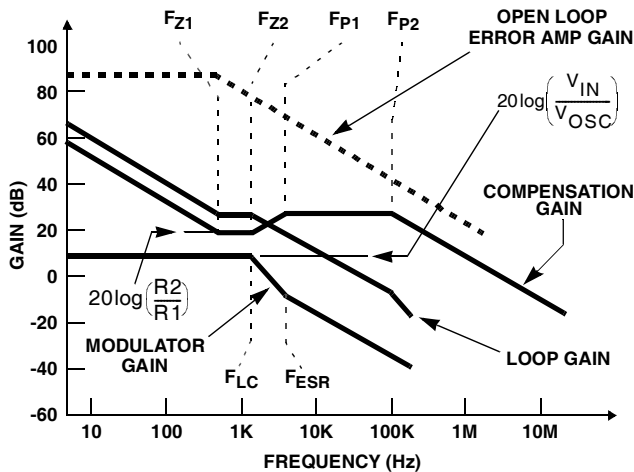

FIGURE 6. ASYMPTOTIC BODE PLOT OF CONVERTER GAIN
Figure 6 shows an asymptotic plot of the DC-DC converter's gain vs. frequency. The actual modulator gain has a high gain peak dependent on the quality factor (Q) of the output filter, which is not shown in Figure 6. Using the above procedure should yield a compensation gain similar to the curve plotted. The open loop error amplifier gain bounds the compensation gain. Check the compensation gain at  $F_{P2}$  with the capabilities of the error amplifier.